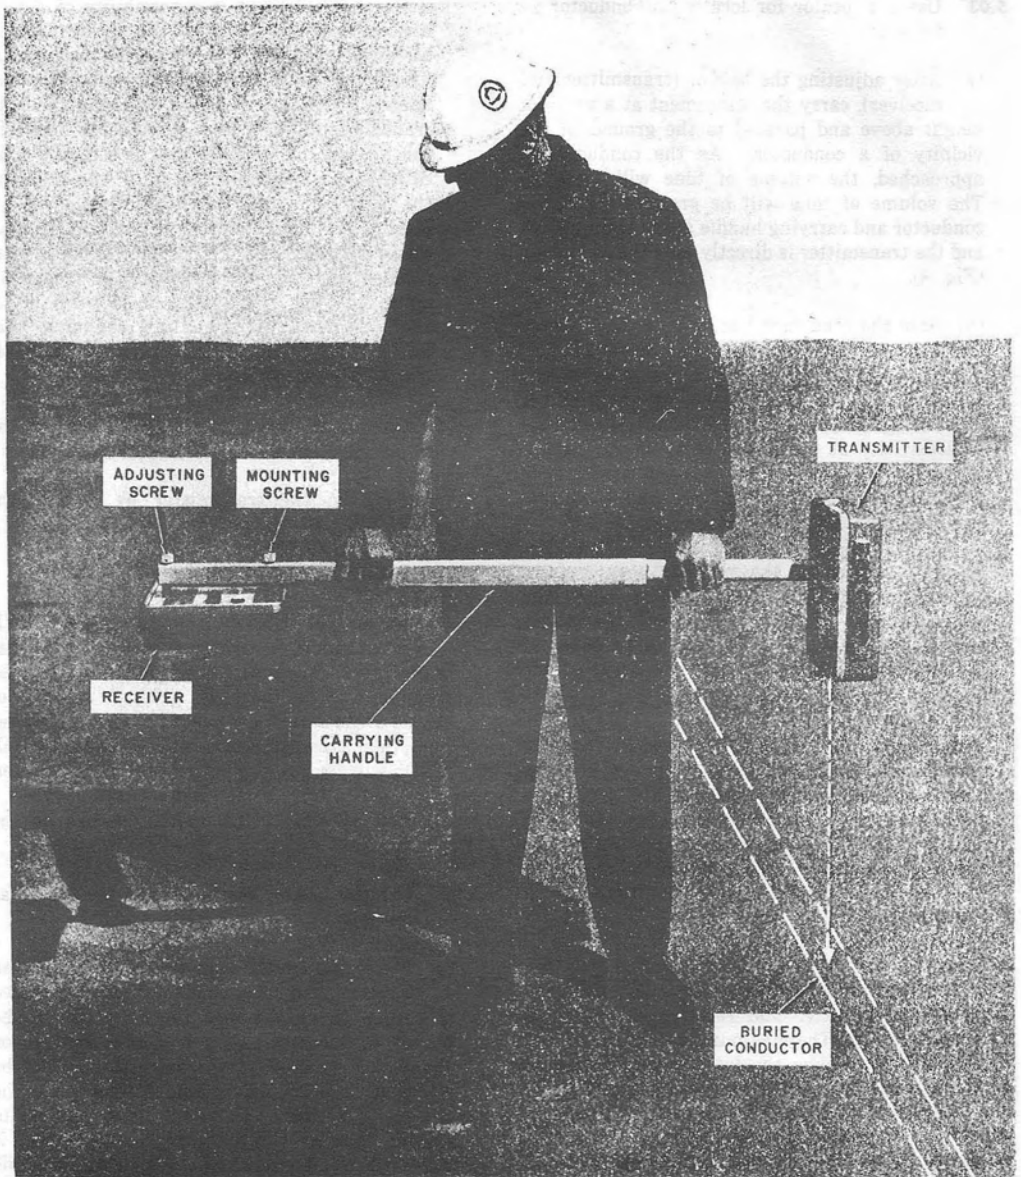

Fig. 4—Inductive Method of Operation—ON Handle
5.01 Assemble the transmitter and receiver on the ends of the carrying handle as shown in Fig. 4. The transmitter is secured to the carrying handle with one knurled head screw. The receiver is secured to the handle with a knurled
- (a) After adjusting the locator (transmitter and receiver), carry the instrument at a uniform height above and parallel to the ground in the vicinity of a conductor. As the conductor is approached, the volume of tone will increase. The volume of tone will be greatest when the conductor and carrying handle are at right angles and the transmitter is directly over the conductor (Fig. 4).
- (d) The cable route can be followed by carrying the set by the handle with its axis at right angles to the conductor route (Fig. 4). It is advisable to cross and recross the conductor from time to time as a check on the tracing and to determine whether readjustment is necessary because of changes in ground conditions.